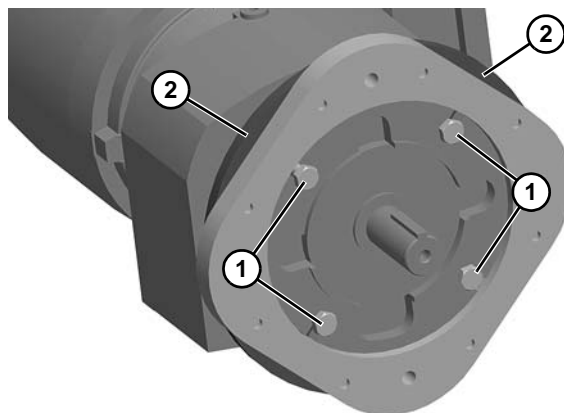

Figure 24
8. Remove four screws (**Figure 24, item 1**) from gearmotor and mount plates (**Figure 24, item 2**).